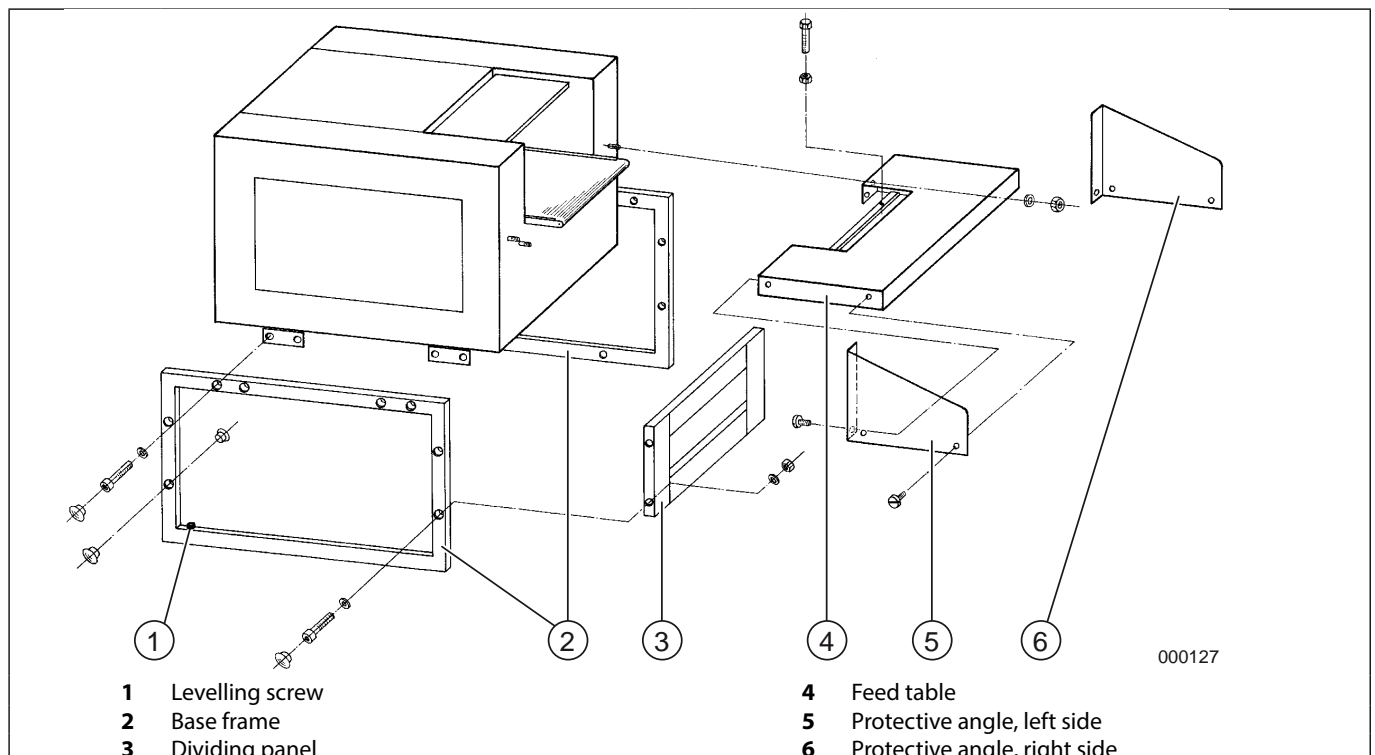

fig. 1 Base frame
1. Remove the dividing panel (c) from between the two frames (fig. 1/2), using the special purpose spanners provided.
2. Remove both frames (fig. 1/2) from the housing case.
4. Place the dividing panel (fig. 1/3) beneath the feed table between the two frames. Attach the plate to the frames using two screws (M 10x20) and lock washers.
6. Adjust the levelling screws (fig. 1/2) to compensate for any unevenness in the floor.
2. Place the feed table (fig. 1/4) on the conveyor belt so that the ends of the screws go through the holes on the feed table. Push the table up against the housing and attach it to the front panel using the nuts and washers you have already removed.
Secure the two protective angles (fig. 1/5+6) to the right and left of the feed table (fig. 1/4) using the 6 flat headed screws.